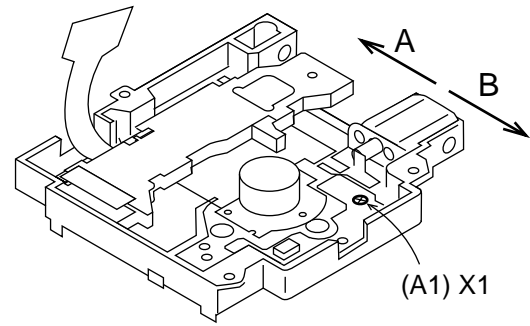

Figure 27-1
2. When the lead-in switch is located FF85 or less, tighten the screw while pressing the PWB in the direction of the arrow A. When FFD2 or more, to direction B. Measure the lead-in switch position again. After position adjustment is completed, fix the PWB with the screw (A1) x 1 pc.(shown in Figure 27-1)